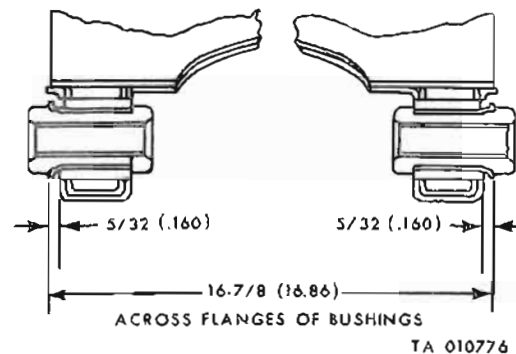

Figure 11-27.1. Installation of suspension arm bushings.
Page 11-8. Figure 11-27.1 is added as follows:
b. Press bushing into suspension arm bore to dimension shown on figure 11-27.1.